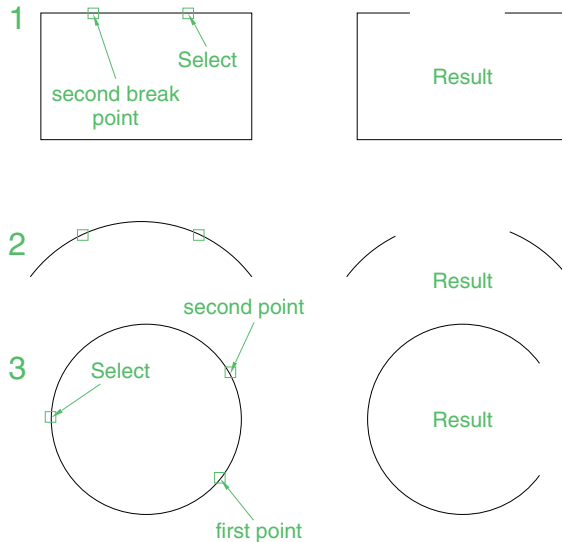

Fig. 5.36 Examples – **Break**
1. Construct the rectangle, arc and circle (Fig. 5.36).
The results are shown in Fig. 5.36.